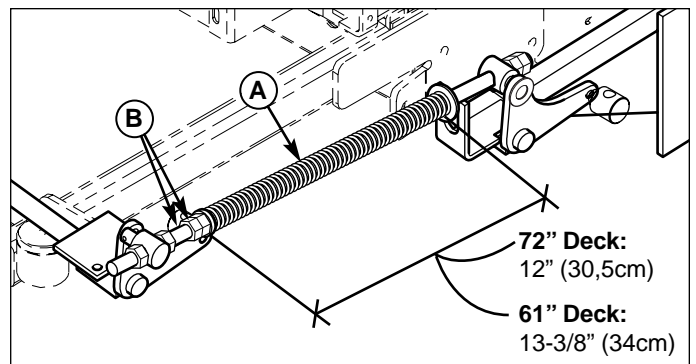

Figure 34. Spring Length Adjustment
2. Measure the length of the deck lift spring (A, Figure 34). This should be 12" (30,5cm) for the 72" deck or 13-3/8" (34cm) for the 61" deck. Be sure to measure the spring only.
3. If not, loosen the jam nuts (B, Figure 34) and adjust the spring to the desired length. Tighten the jam nuts.